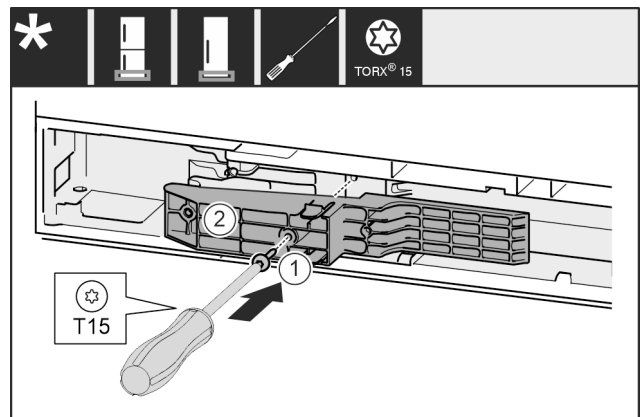

Fig. 51 *
- Insert the adapter piece Fig. 51 (1) on the handle side into the recess.*
- Tighten the screw Fig. 51 (2) with the screwdriver.*